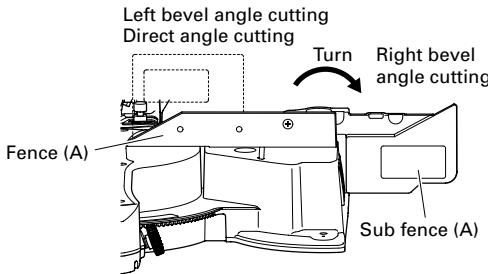

Fig. 10
In the case of right bevel cutting, raise the sub fence (A) up as illustrated in Fig. 10 and then turn it clockwise.